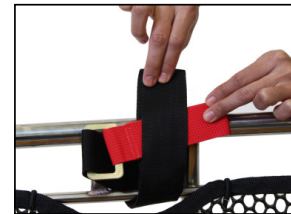

Figure 8, Threading Buckle
- Thread the buckle through the restraint loop (Fig. 8) and pull until the loop is tight around the Rescue Litter rail.